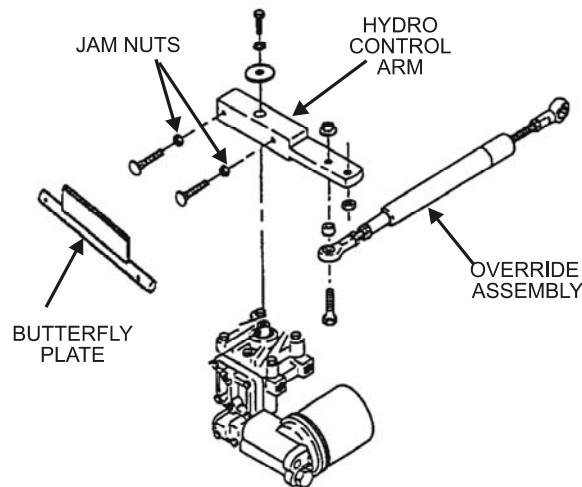

FIGURE 11
- d) Adjust two 5/16 x 1-1/2" carriage bolts in the hydro control arm in or out until the head contacts the butterfly plate, and then tighten jam nuts (See Figure 11).